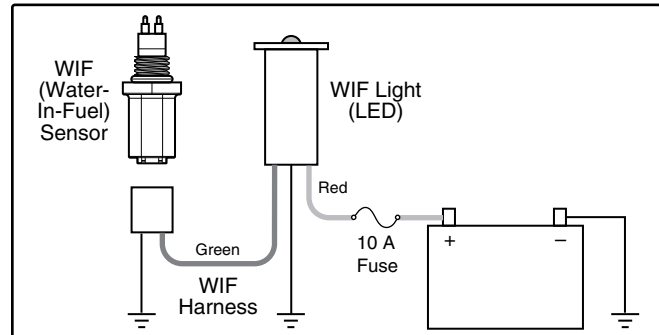

Figure 4 - WIF Wiring
8. Locate 12 VDC or 24 VDC power source. Run red wire from power source to 4" (101.60 mm) red wire on WIF LED. Add a 10 A in-line fuse (not included). (See Figure 4.)